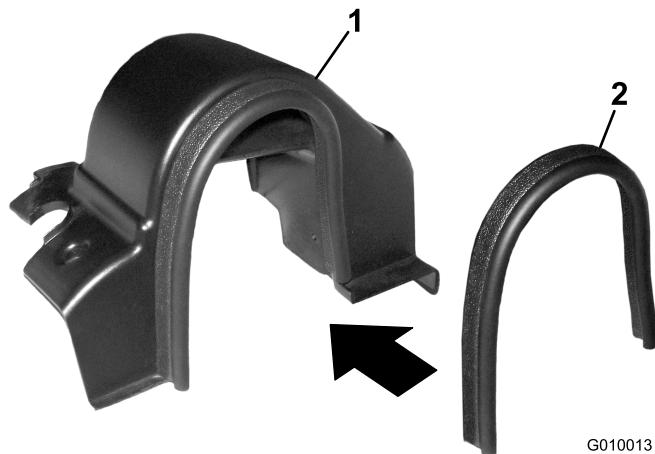

Figure 5
1. Start on one edge of the trim seal and force the trim over the edge of the belt cover, working around the entire length of the belt cover (Figure 5).